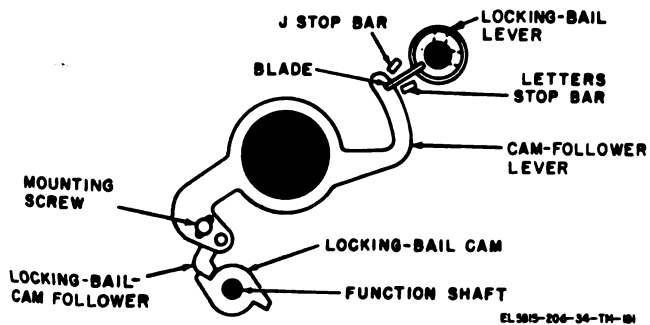

Figure 3-109. Code-ring locking-bail cam-follower adjustment (TT-4B/TG, TT-4C/TG, TT-335/TG, TT-537/G, TT-698A/TG, and TT-698B/TG ).
**3-142. Code-Ring Locking-Bail Cam-Follower Adjustment (TT-4B/ TG, TT-4C/ TG, TT-335/ TG, TT-537/ G, TT-698A/ TG, and TT-698B/ TG) (fig. 3-109)**